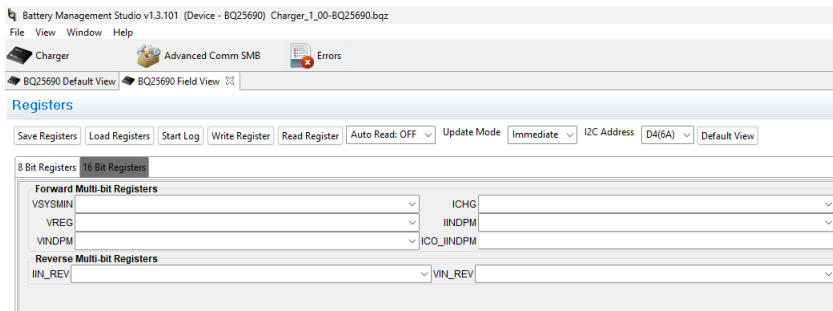

**Figure 3-1. BQStudio Device Type Selection Window**
1. On the computer connected to the EV2400 or EV2500 communication box, launch Battery Management Studio (BQStudio). Select Charger as seen in Figure 3-1.